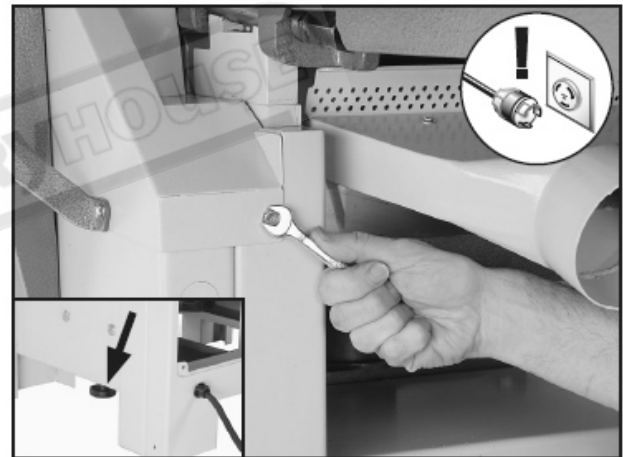

Figure 25. Removing Capscrew on V-belt cover and belt tension knob (inset).
2. Remove the five cap screw securing the V-belt cover (see **Figure 25**).
3. Remove the fence and fence bracket, then remove the motor access cover and belt tension knob (**Figure 25**).